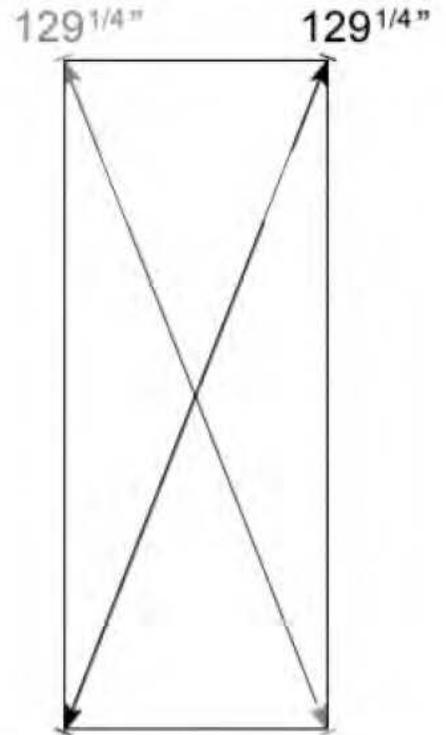

Figure 4
**Step 5.** Square the deck frame by measuring across the diagonals. Adjust to square if necessary, floor is square when measurements are the same – 129 1/4". Figure 4. Increasing the height of the deck may be accomplished by several means. You may try cement blocks, gravel or wood shims.